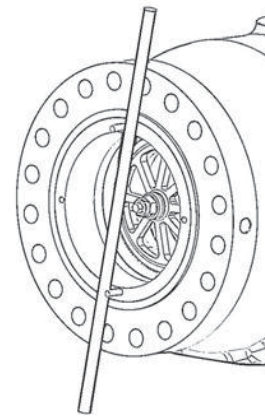

Figure 6. Main Valve Disk Ring Replacement
Main Valve (Figures 6 and 8)
4. Apply torque counterclockwise on both bolts to slowly back out disk holder (key 4) (see Figure 6). Use a crowbar if necessary.